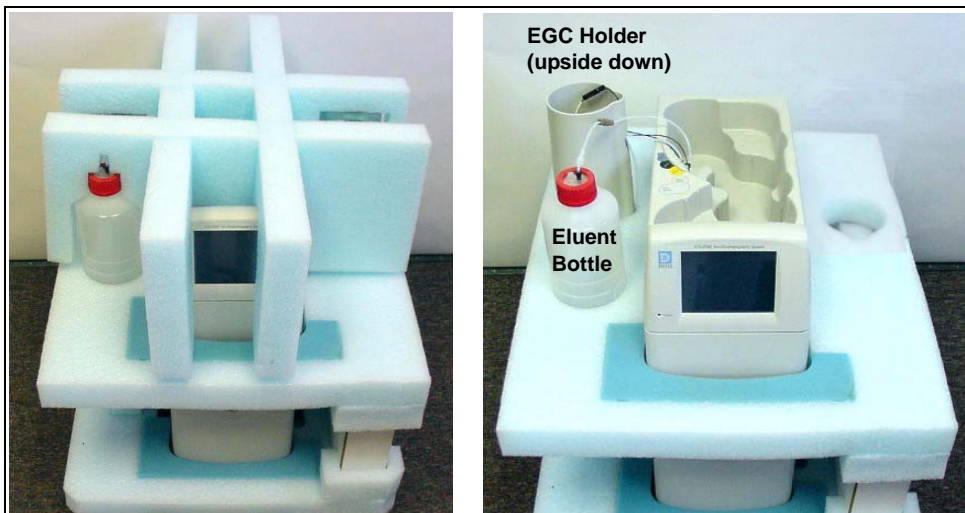

Figure B-1. Unpacking the ICS-2000
1. After removing the ICS-2000 from the shipping box and removing the top layer of foam, remove the next layer of foam (see Figure B-1).